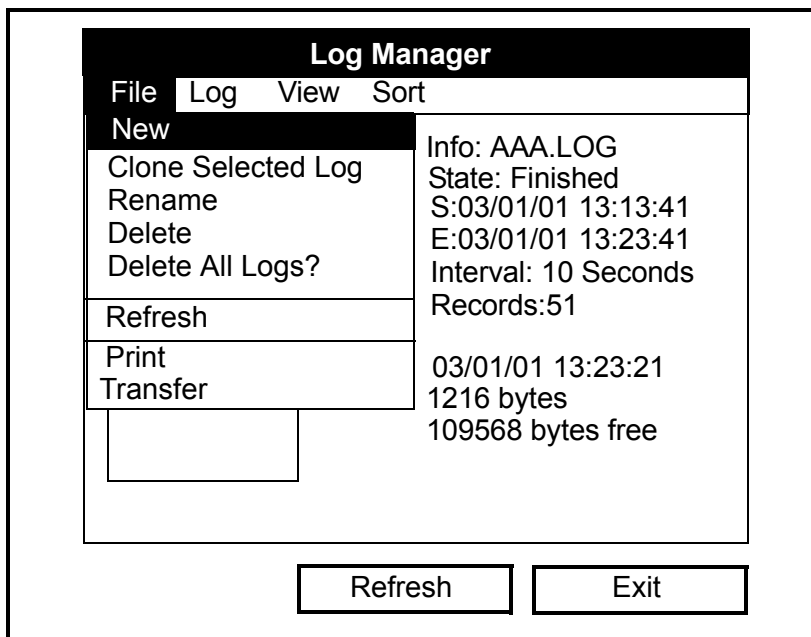

Figure 5-3: File Menu in the Log Manager
1. At the *Log Manager* window, press [MENU] and then [ENTER]. A window similar to Figure 5-3 below opens.
- In the *Log Manager*>*File* menu (see Figure 5-3 on the previous page), scroll to the *New* option and press [ENTER]. Or,
1. In the *Log Manager*>*File* menu (see Figure 5-3 on page 5-3), scroll to the *Delete All Logs?* option and press [ENTER].